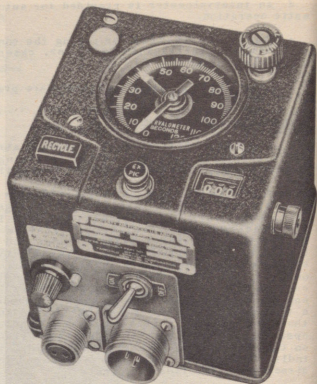

Figure 4 - B-3B Intervalometer
**r. TYPE B-3B INTERVALOMETER (See figure 4).** - The type B-3B intervalometer is the timing instrument for automatically operating the camera at any predetermined interval from 2 to 120 seconds between exposures. It also warns the photographer and pilot two seconds in advance of an exposure, so that they may level the camera and the airplane.
#### d. TYPE B-3B INTERVALOMETER (See figure 4).